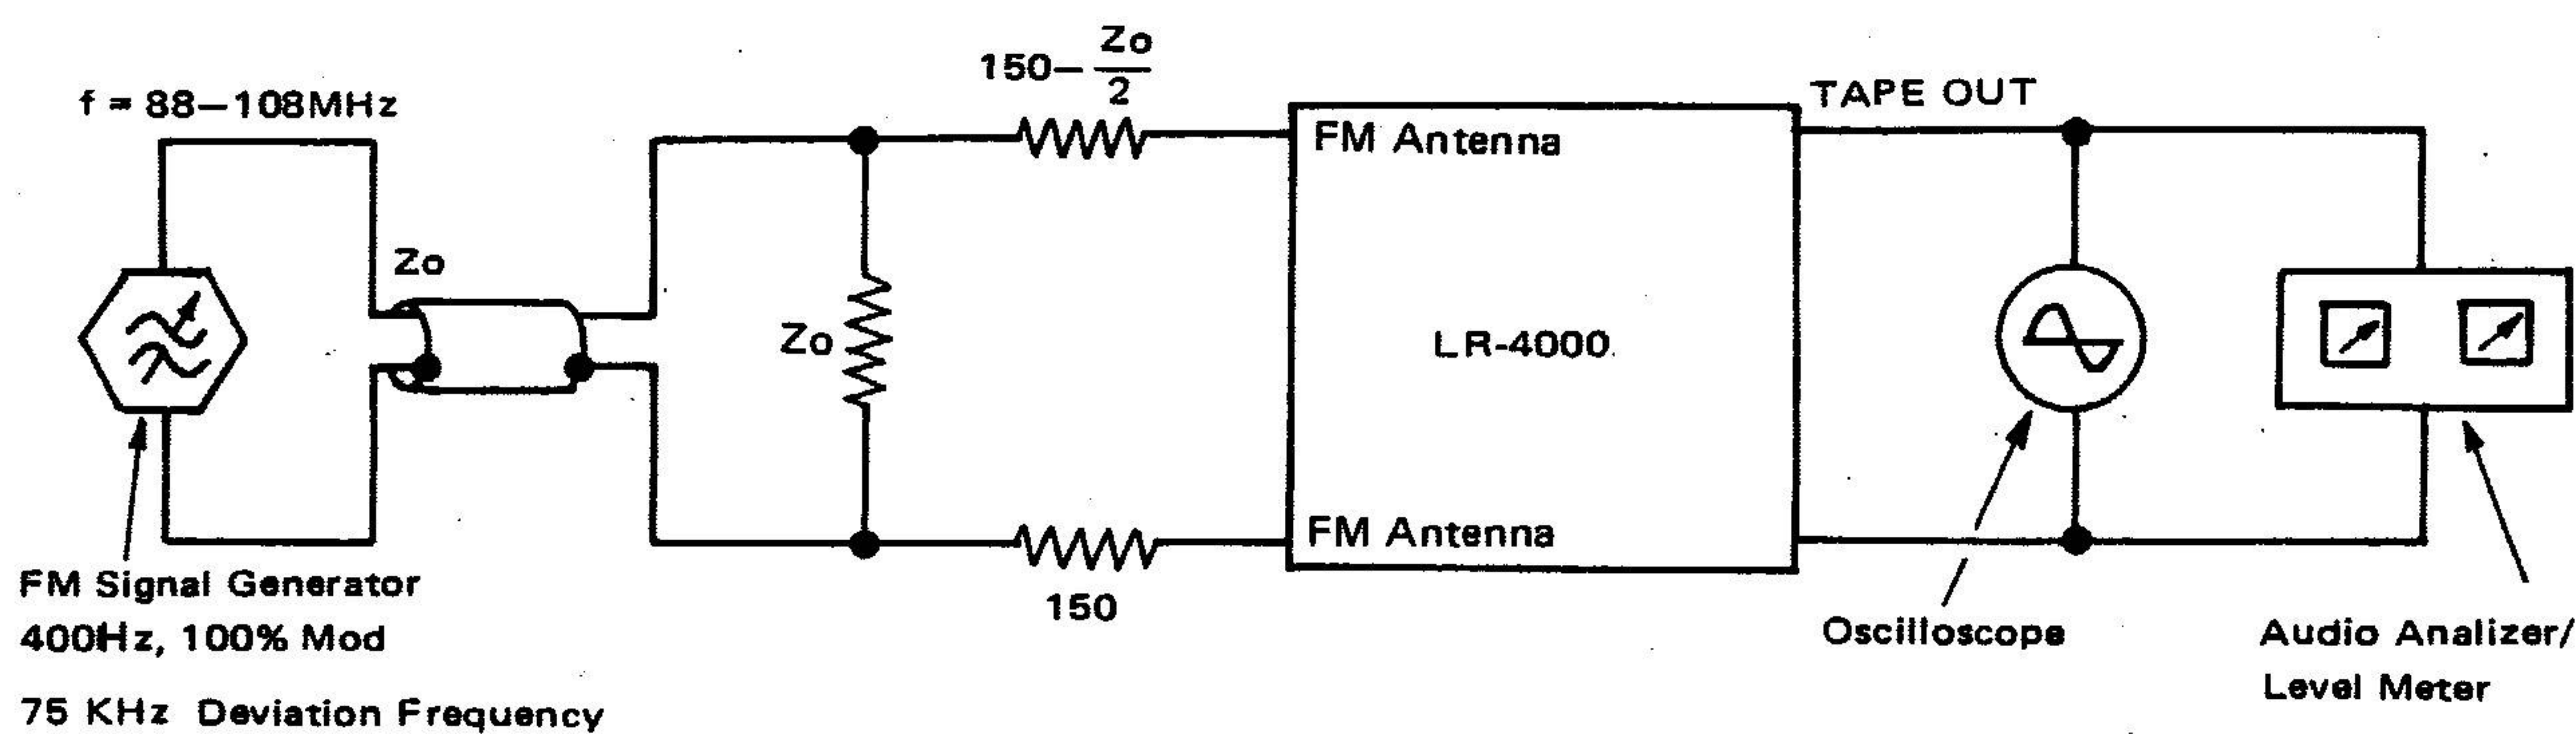

Figure 5. FM Front End Test Set-Up
2. Connect test equipment to the LR-4000 as shown in Figure 5; FM Front End Test Set-Up.
1. Connect test equipment to the LR-4000 as shown in Figure 5, FM Front End Test Set-Up.
Connect test equipment to the receiver as shown in Figure 5. Then, modulate the FM signal generator with stereo composite signal and perform the following: